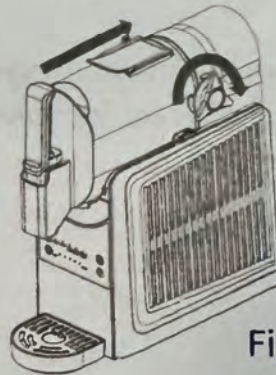

Fig.3
3. Slide the tank on over the installed auger and evaporator, and then lock the tank in place by the tank locking bar (see Fig.3).